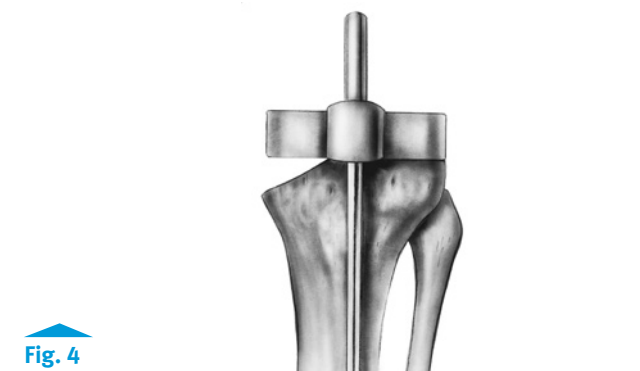

Fig. 4
- If desired, remove the reamer and check alignment by using a Spacer Block with the Extramedullary Alignment Rod (Fig. 4).